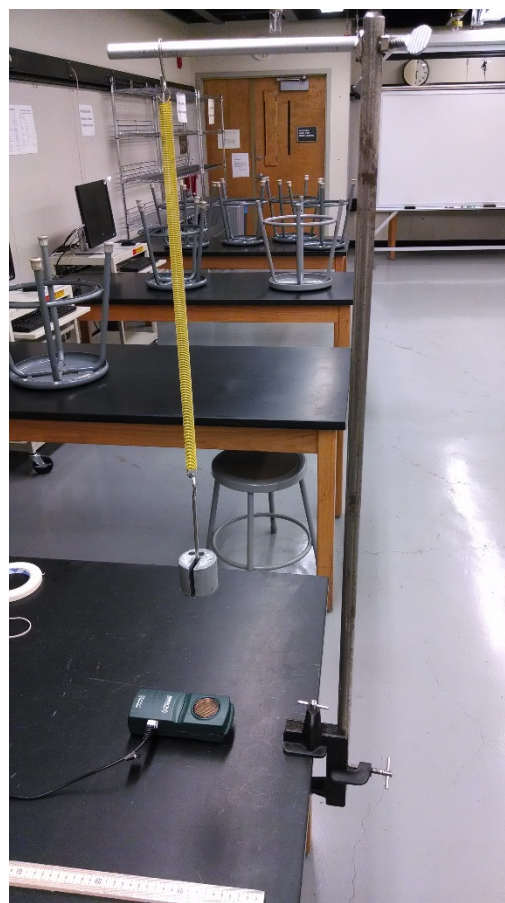

Figure 2 - The general setup for Part B with the spring and hanger over the motion detector lying on the table.
**1)** Now remove the rotary motion sensor and the pole it is on. You will no longer need them. Turn the upper pole so that it is over the table and remove the force sensor. Place the motion detector facing upward on the table beneath the pole. Put the S-hook on the pole and hang Spring A from the S-hook. Add the 50 g hanger to the end of the spring. Your setup should now look like Figure 2, except using the smaller spring and without any extra mass on the hanger. You can calibrate the motion detector using the room temperature.